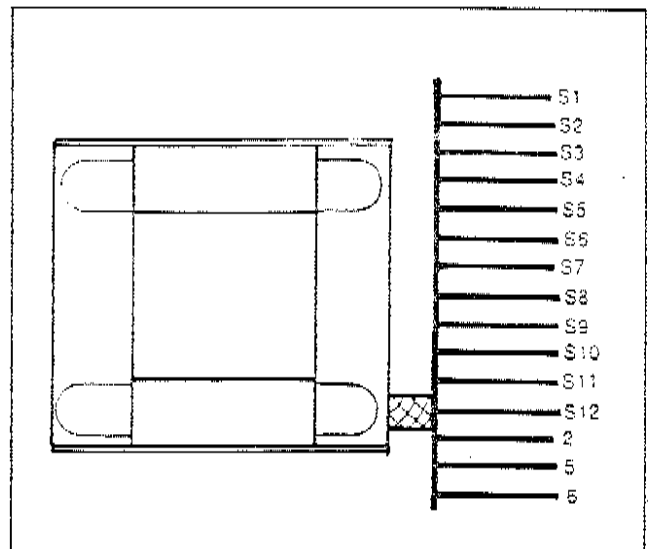

Figure 4. Stator on 120/240 Volts, 3-Phase Units
Units with liquid cooled engine and having a 3-phase stator may be rated either (a) 120/240 volts, or (b) 120/208 volts. The stator configuration for units rated 120/240 volts, 3-phase is illustrated in Figure 4; units rated 120/208 volts, 3-phase are shown in Figure 5. These 3-phase stators consist of six (6) coils, with each coil having two (2) leads, so that twelve (12) stator AC power leads are brought out of the stator assembly. These twelve stator AC power leads are identified as leads S1 through S12.